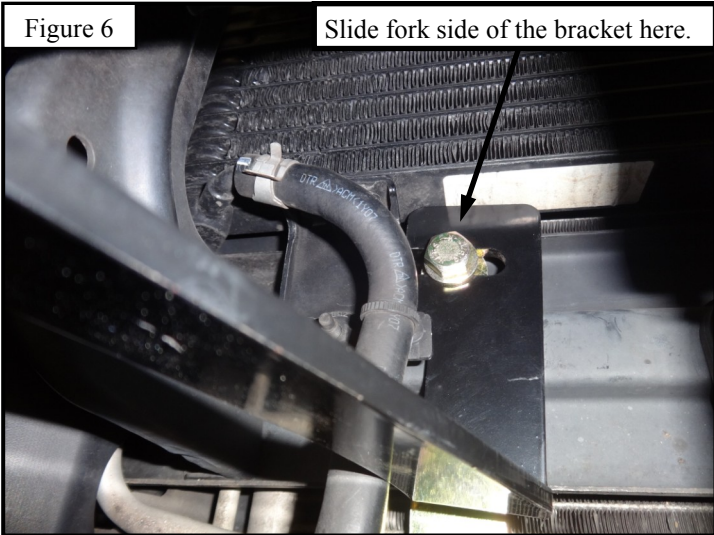

Figure 6
6. In between items 5 and item 7 on the previously attached spacers, slide the fork side of the upper support strap (items 2 & 3) to both driver and passenger side. (Figure 6)